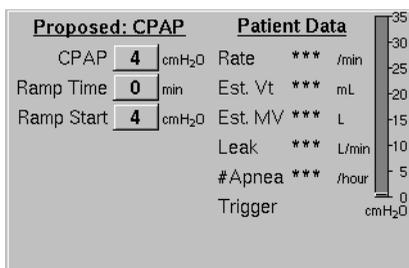

Figure 23: Activating a New Mode
4. Scroll to highlight **Activate** (Figure 23) at the bottom of the screen to activate the mode change. Note that '**Proposed (Mode)**' will flash at the top of the screen until the new mode is activated or cancelled.